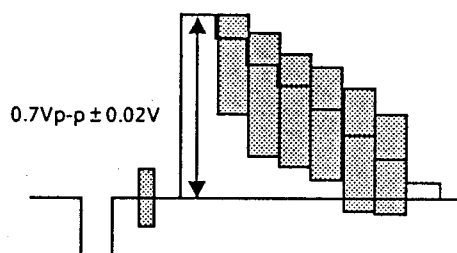

Fig. 4-13
- While observing the waveform monitor, adjust VR45 so that the Y signal (White Bar) level becomes $0.7Vp-p \pm 0.02Vp-p$. (Fig. 4-13)